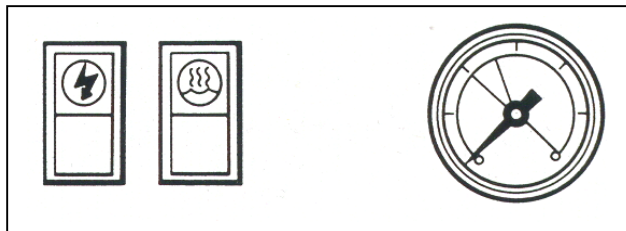

Figure 2. Steam Generator Controls
There are two steam generator control arrangements and two steamer compartment control panels available for Cleveland Range Convection Steamers. The steam generator controls are illustrated in Figure 2. The steamer compartment control panels are illustrated in Figures 3 and 4. Compare these figures with the equipment supplied, and identify which control panel combinations applies.
The steam generator controls are located on the front face of the steamer base unit. The switches are to the left of the pressure gage, as illustrated in Figure 2. Most Cleveland Range Convection Steamers have a steam generator built into the base unit which supplies steam to the cooking compartments. However, an external steam supply may also be used. Units with a built-in boiler have both the POWER rocker switch and the STEAM momentary switch next to the pressure gage. Units with no internal generator have the POWER rocker switch only. They do not have the STEAM momentary switch.
a. Press the ON end of the POWER on-off rocker switch located next to the steam pressure gauge (Figure 2). The red indicator light in the POWER rocker switch turns on and the steam generator begins to fill with water units takes about 5 minutes.